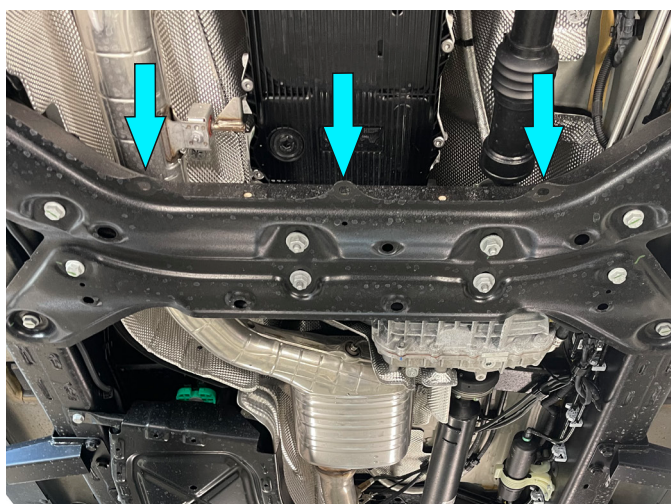

Fig. 7
5. Install M10 insert nuts (item C) above factory holes as shown in Fig.7.